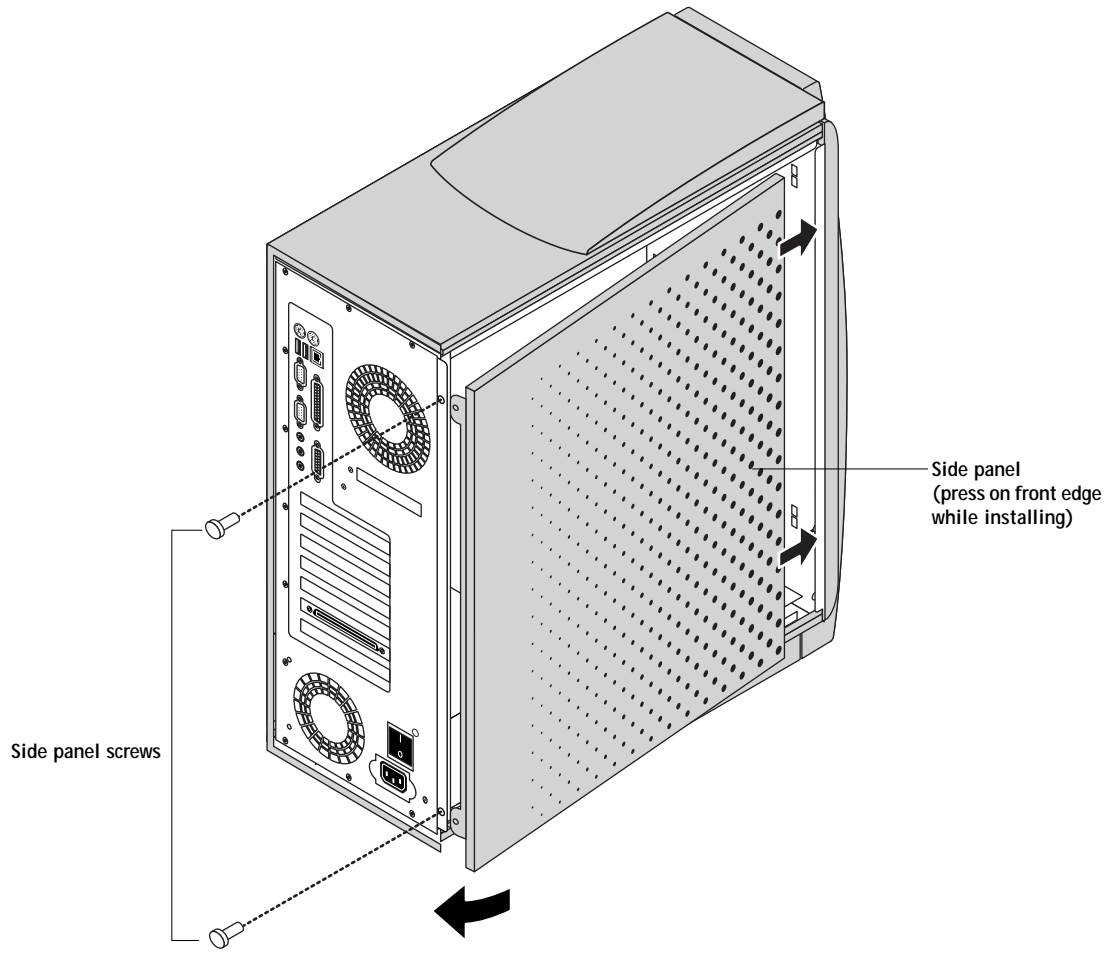

FIGURE 4-7 Replacing the side panel
4. Slide the side panel into the grooves along the edges of the chassis (see Figure 4-7 on page 4-12).